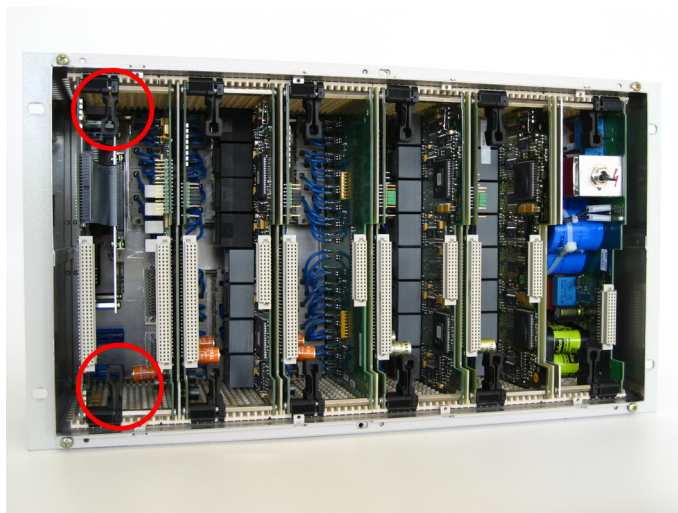

Figure 1-6 Deblocking the CPU module
- ❑ Detach the CPU board by pushing the black locking levers right until the levers unlatch from the PCB. Flip both locking levers forward simultaneously (approx. 45°) until the levers snap into the second position on the PCB (see Figure 1-6).